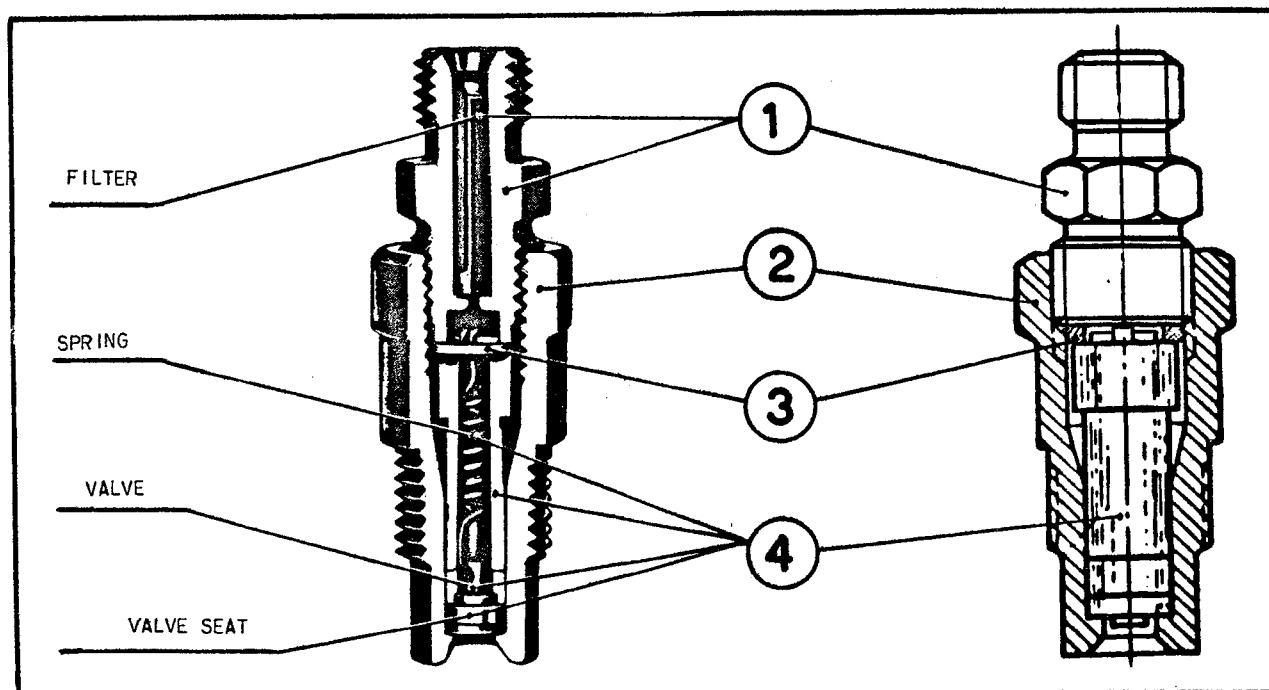

Fig. 8 - DLO-20B Type Injector Sections.
The injector not complying even with one only of these specifications, requires the replacement of the nozzle (4), fig. 8.
REPLACING THE NOZZLE (Fig. 8)